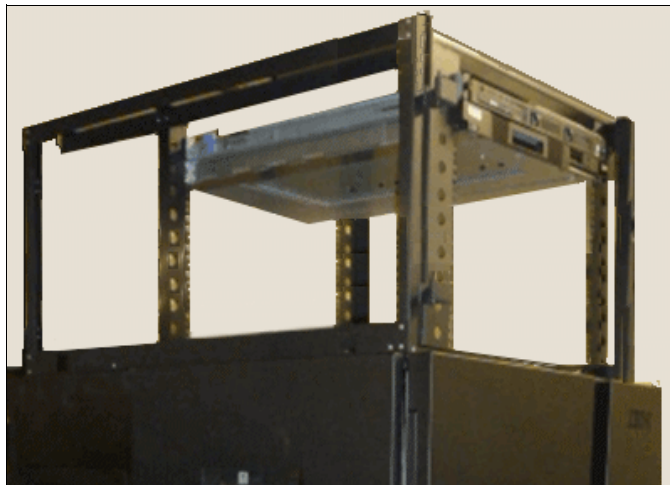

Figure 1-21 Top rack without covers
- ▶ TopRack can be reinstalled with the switches on the TS4500; the existing TR1 can be moved to the TS4500 (see Figure 1-21 on page 33).
Figure 1-21 shows the top rack without covers.